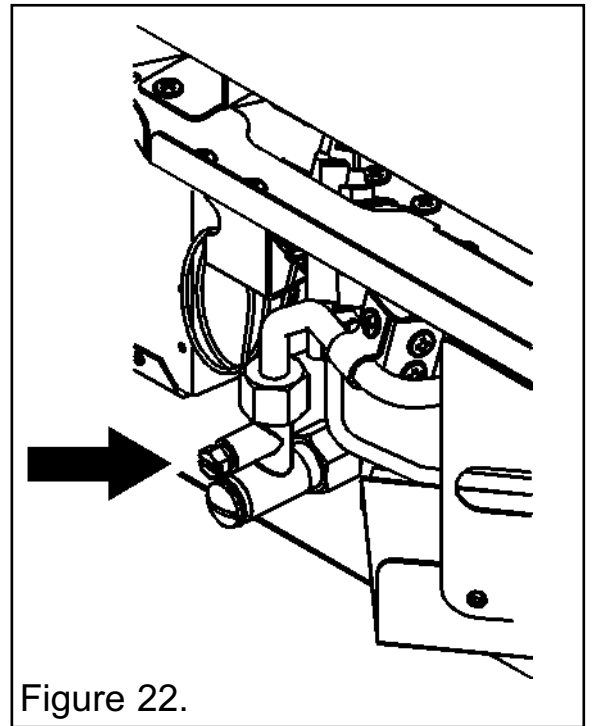

Figure 22.
1. Check the inlet pressure by fitting a pressure gauge at the test point. The test point is on the inlet 'T' connector (See figure 22). Check the pressure with the appliance alight and set at maximum output.